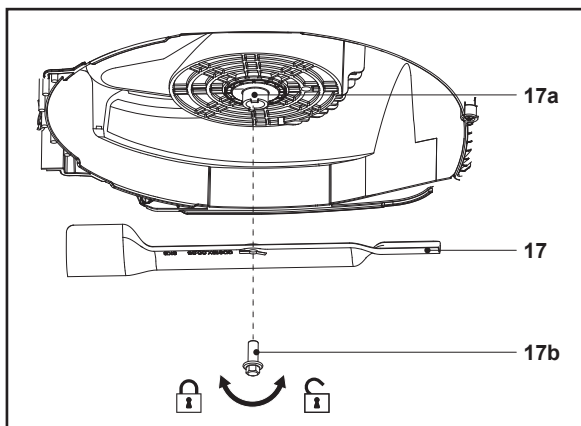

Fig. 13
1. Keep the underbody and cutting device (17) clean and free of debris. Remove clippings from the discharge chute (18).
3. Keep the cutting device (17) sharp to ensure a good cutting performance. Replace a worn or damaged cutting device with a new one of the same type or have it sharpened by a qualified specialist.
4. Loosen the bolt (17b) anti-clockwise using a suitable wrench and remove it together with cutting device (17) (Fig. 13).
6. Reattach the cutting device (17) onto the spindle (17a), pay attention to correct alignment. Then retighten the fastening bolt. The tightening torque should be approximately 25 N m.
8. Lubricate the cutting device (17) after each use to prolong the life span of cutting device and product. Apply light machine oil along the edge of the cutting device.